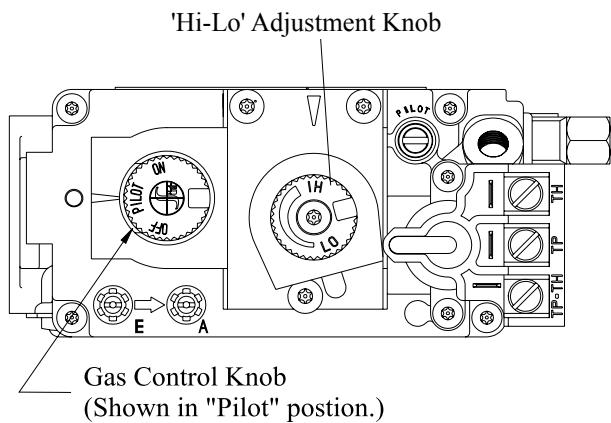

Figure 32. 'Hi-Lo' Adjustment on the L52DF-ST's gas valve.
The L52DF-ST is equipped with an adjustable burner, allowing you to raise or lower the flames. To adjust the flames, locate the black knob marked 'Hi-Lo', in the centre of the gas control valve (See **Figure 32**). The front burners are not adjustable.
- An inspection of the gas valve, gas components, and pilot flame. For your convenience a 1/8" manifold pressure tap is supplied on the gas valve for a test gauge connection. See **Figure 32**.